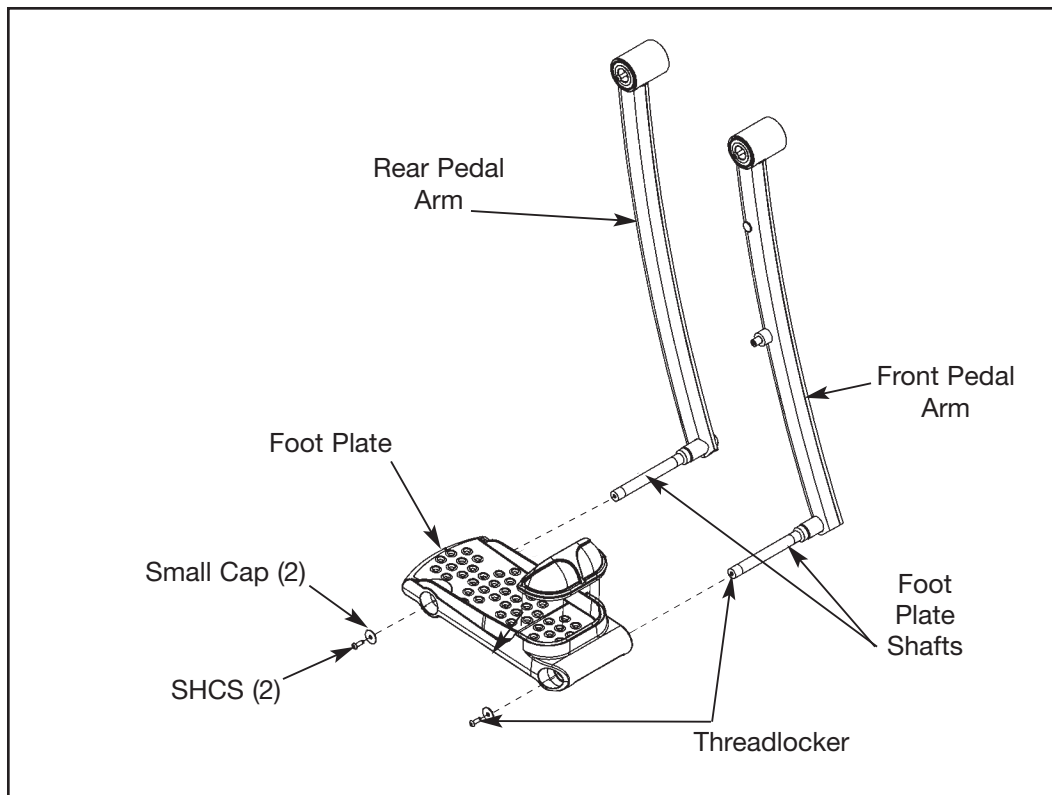

Figure 25
- A. Turn the main power switch above the power inlet to the off (O) position.
- A. Using a Phillips head screwdriver or 3/16" Allen wrench, remove each SHCS securing the (appropriate) cap. See Figure 25.
- D. Using a Phillips head screwdriver or 3/16" Allen wrench, attach cap with the (appropriate) SHCS securing the cap. See Figure 25. **NOTE:** *SHCS must be tightened to a minimum of 100 inch-pounds.*